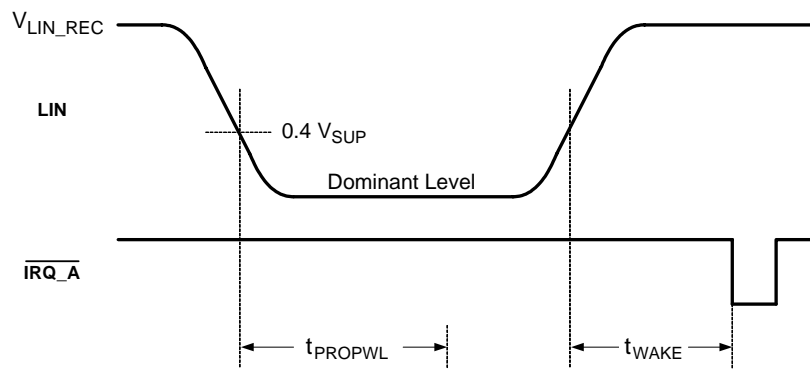
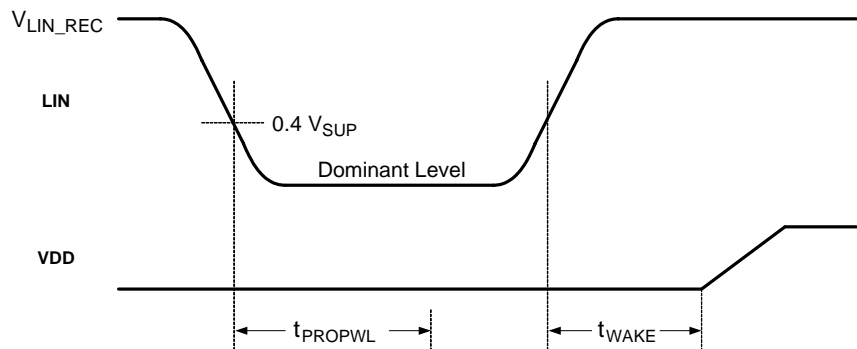

Figure 8. Wake-Up Stop Mode Timing
Figure 9. Wake-Up Sleep Mode Timing
- t_{WAKE} is typically 2 internal clock cycles after LIN rising edge detected. See Figure 9 and Figure 8, page 19. In Sleep mode the V_{DD} rise time is strongly dependent upon the decoupling capacitor at VDD terminal.